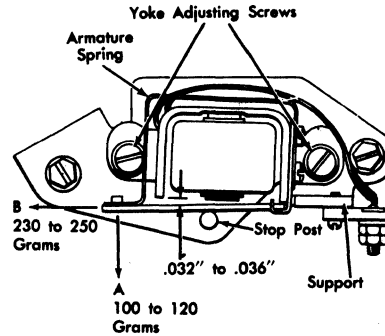

Figure 18. CF Clutch Magnet Adjustment
1. Adjust magnet yoke adjusting screws (Figure 18) for .032-inch to .036-inch clearance between armature and yoke at the operating end.
2. Form armature spring to exert tension of 100 grams to 120 grams in direction of A (Figure 18) and 230 grams to 250 grams in direction of B.